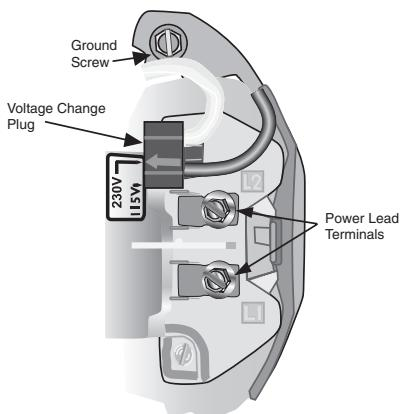

**Figure 5: Removing Motor End Cover**
1. In a new pump, the motor leads will already be connected to the switch; the motor will be hooked up for 230 volts. *If your power supply is 115 volts, see Figure 5, Page 7.*